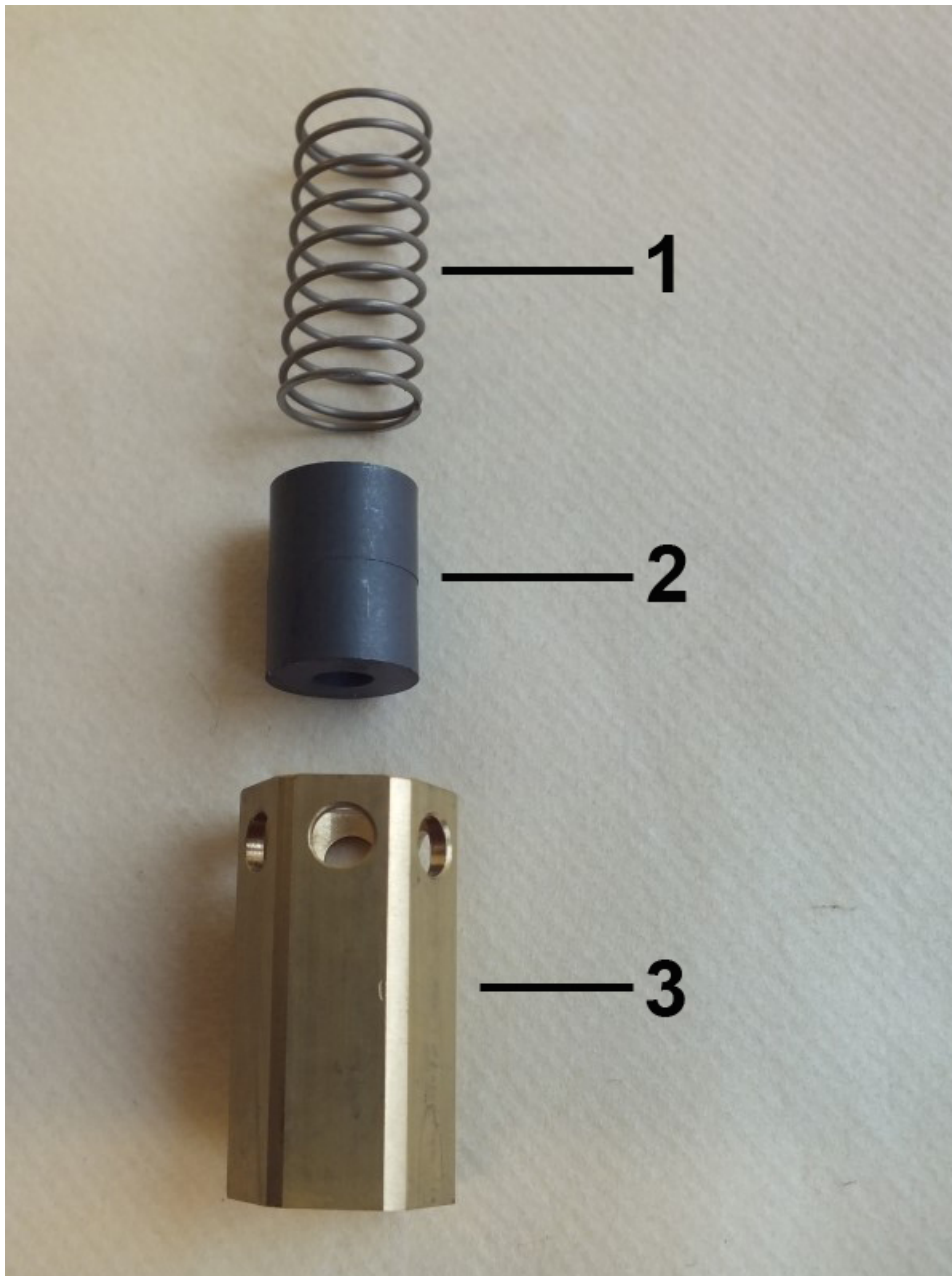

Fig. 26: Spring, magnets and float
5. ➤ The inner parts of the flow monitor consist of the spring (*Fig. 26/1*), magnets (*Fig. 26/2*) and float (*Fig. 26/3*).